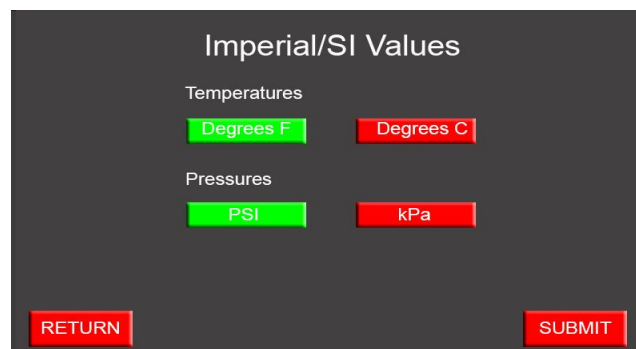

Figure 4-14 Typical Parameter Units screen
The Imperial/SI Values screen, shown in Figure 4-14, allows the operator to select Imperial or *Système Internationale* (SI) (also known as metric) units of measurement. The default units of measure are Imperial units of degrees in Fahrenheit and pounds per square inch (PSI), but the user may elect degrees in Celsius or kilo Pascal (kPa).